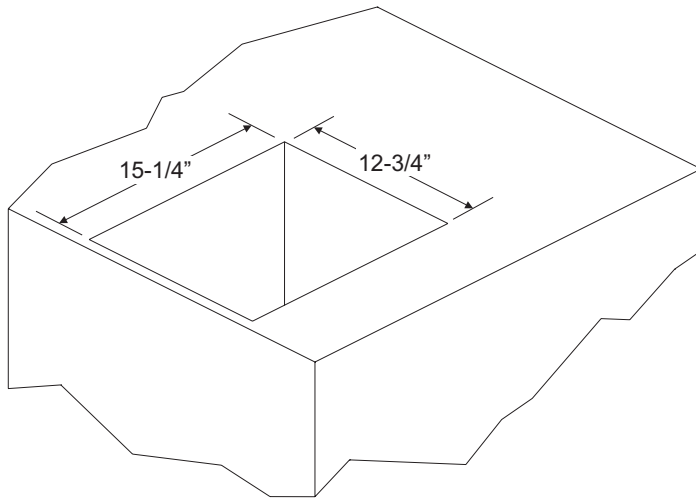

Figure 1
1. Make sure the DPA152 surround opening dimensions match those in Figure 1.